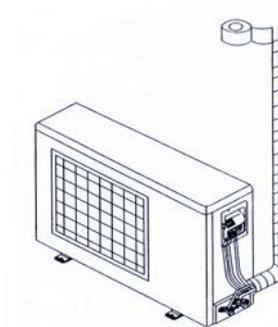

Fig.19
- (1) Use adhesive tape to bundle the connecting pipe and the cables together. To prevent condensate from overflowing out from the drainage pipe, separate the drainage pipe from the connecting pipe and the cables.
- (2) Use thermal insulation tape to wrap the pipes from the bottom of the outdoor unit until the upper end of the pipe where the pipe enters the wall. When wrapping thermal insulation tape, the later circle of tape must cover half of the front circle of tape (Refer to Fig 19).
- (3) Wrapped pipe must be fixed to wall using pipe clamps.
- 2、 If the communication line between the wire controller (85 × 85 × 16) and the indoor unit is surface-mounted, use 1# PVC pipe and make matching recess in the wall (refer to Figure 19);